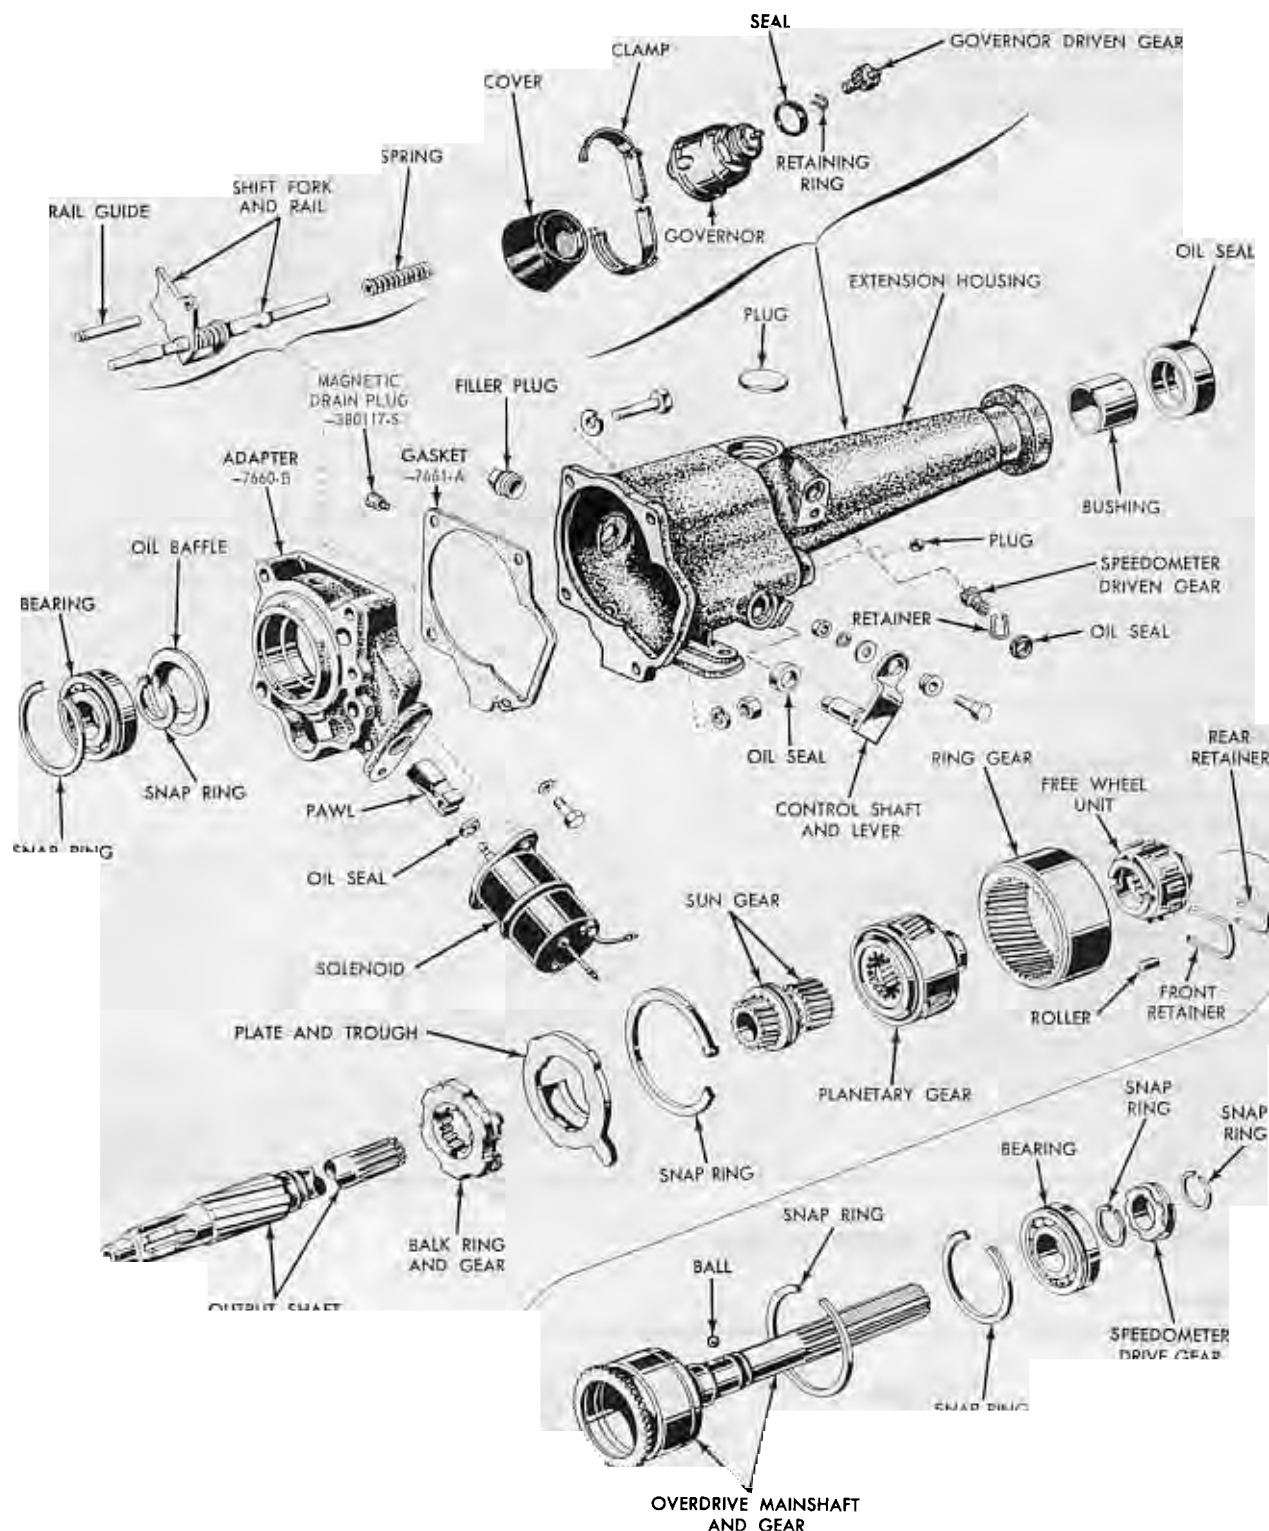

FIG. 21—Overdrive Unit Disassembled
36. Place a new gasket on the overdrive adapter, and hold it in place with gasket sealer (Fig. 21).